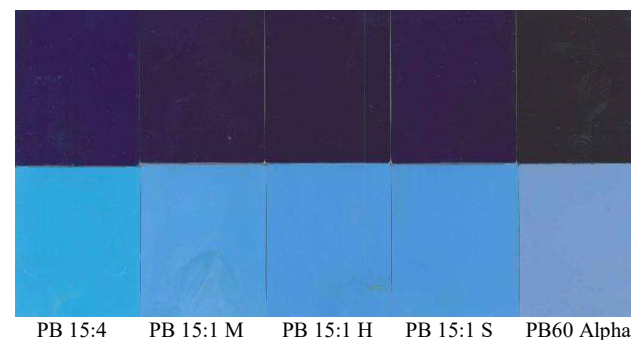

Figure 4a Photo
Color data was compiled using nylon “tint” chips containing 0.1% pigment with 1.9% TiO₂ and “masstone” chips containing 0.5% pigment. Figure 4a displays the photo of the masstone and tint chips. The a* versus b* color plots also exhibit the same trend. It is important to note the large difference in color between the three (3) red shade blues! Keep in mind when specifying pigments. PB 15:1’s are not all the same in performance or color. They are made to meet specific specifications.